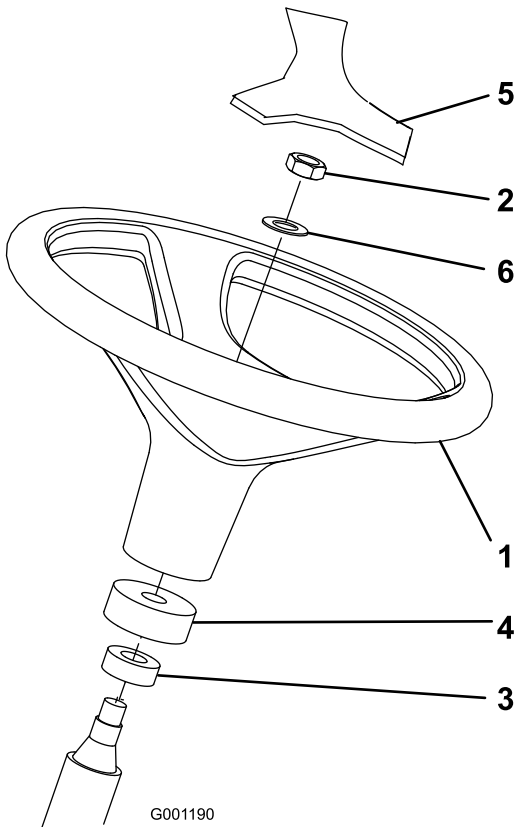

Figure 3
1. Remove the steering wheel from the shipping skid (Figure 3).
**Note:** Ensure that the foam collar and dust cover remain on the steering shaft (Figure 3).
3. Slide the steering wheel and washer onto the steering shaft (Figure 3).
5. Mount the cover to the steering wheel (Figure 3).